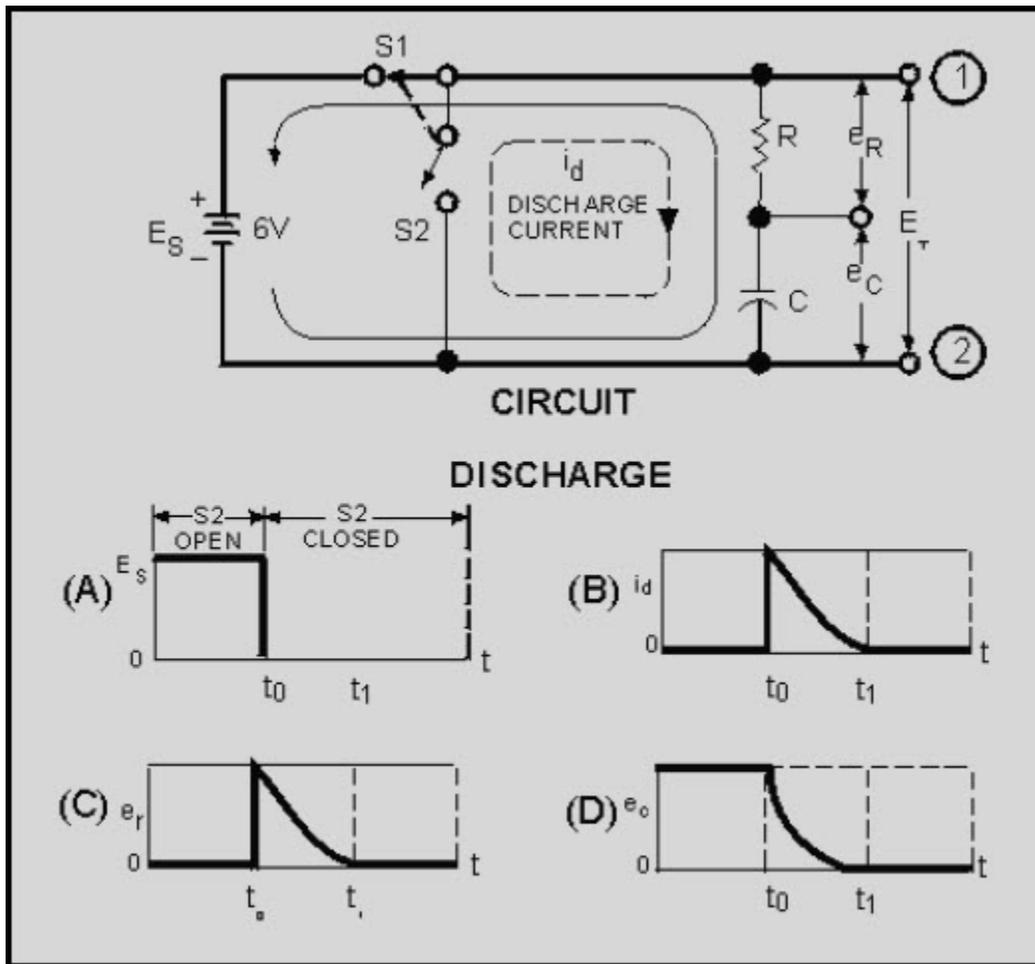

Figure 3-10 Discharge of an RC Series circuit
In figure 3-10 at time t_0 , the capacitor is fully charged. When S1 is open and S2 closes, the capacitor discharge cycle starts. At the first instant, circuit voltage attempts to go from source potential (6 volts) to zero volts, as shown in graph (A). Remember, though, the capacitor during the charge cycle has stored energy in an electrostatic field.
By comparing graph (A) with graph (D) of figure 3-10, you can see the effect that capacitance has on a change in voltage. If the circuit had not contained a capacitor, the voltage would have ceased at the instant S1 was opened at time t_0 . Because the capacitor is in the circuit, voltage is applied to the circuit until the capacitor has discharged completely at t_1 . The effect of capacitance has been to oppose this change in voltage.